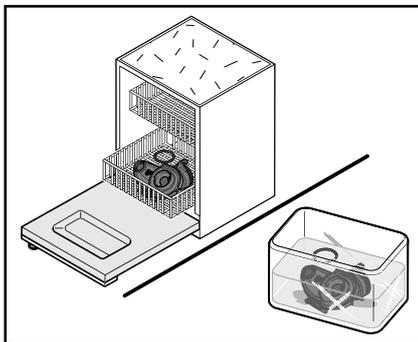

Fig. 29
7. Clean the mixing bowl and the sealing ring (fig. 29):